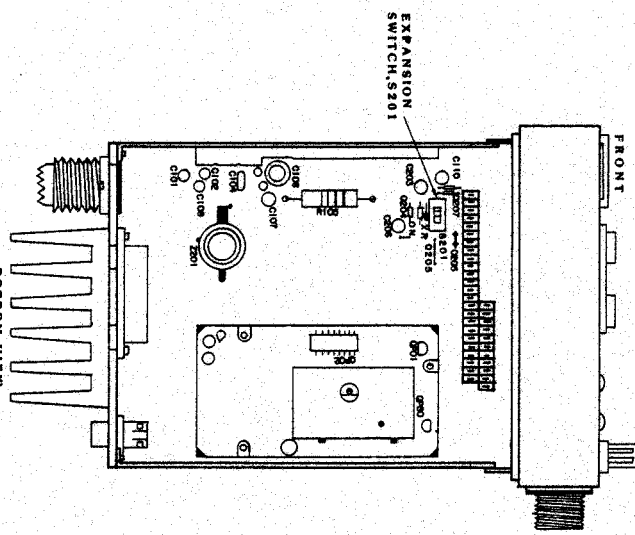

FIGURE 2. EXPANSION SWITCH LOCATION
3. Locate the expansion switch, S201 on the bottom P.C. Board. Refer to Figure 2.